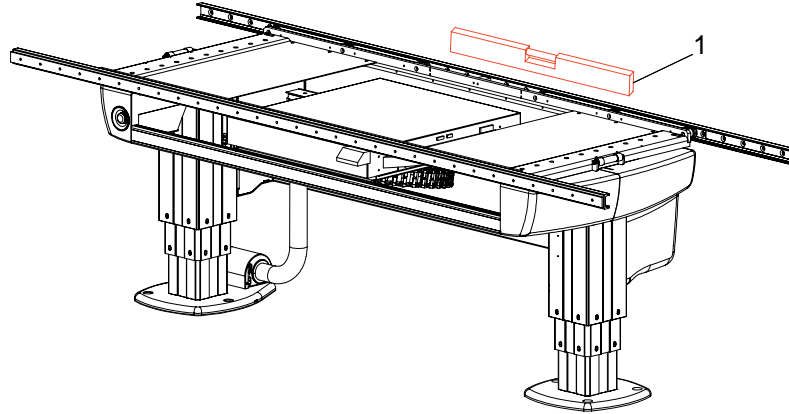

Fig. 4-106
4. Place a spirit level on the table top and check if the table top is horizontal (± 1 mm), see Fig. 4-106 . Shim each column if necessary.